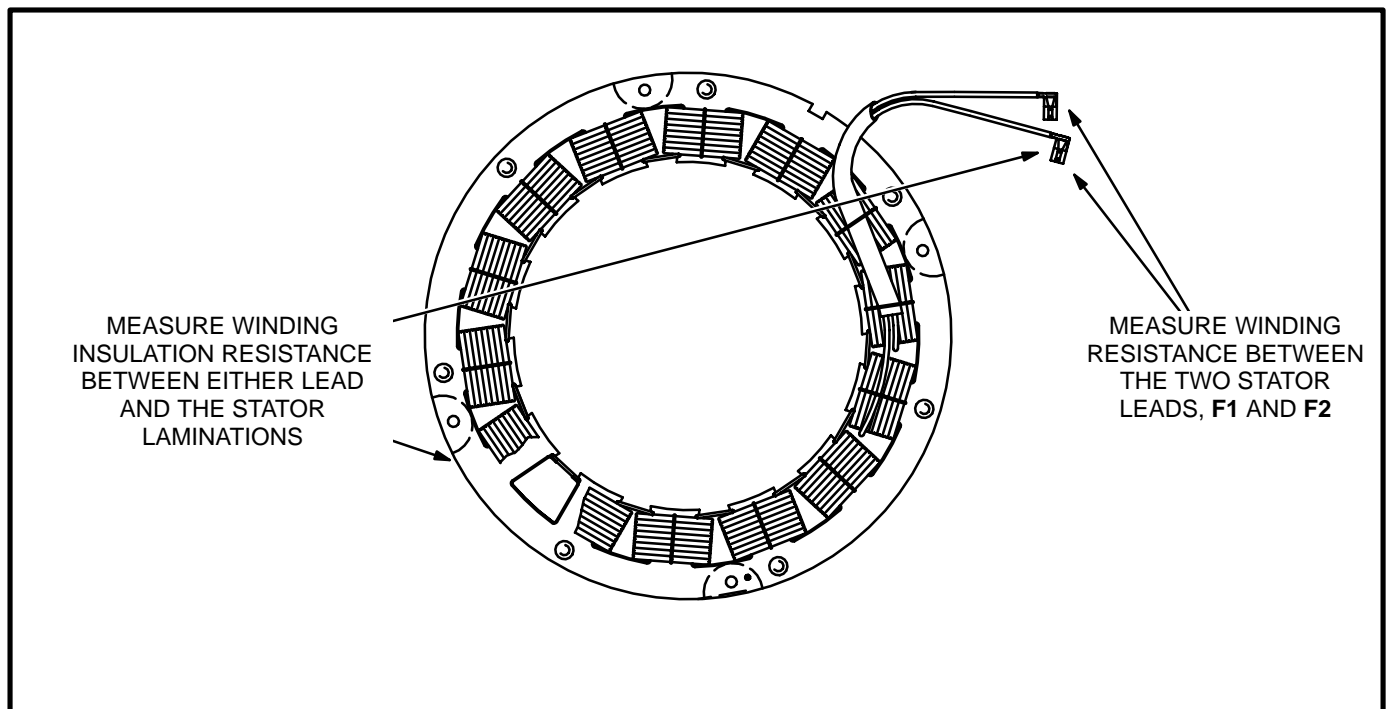

FIGURE 5-2. TESTING AND FLASHING THE EXCITER STATOR
2. Disconnect the F1 and F2 leads (Figure 5-2) at the voltage regulator and connect them to a variable 12 VDC source. Positive lead to F1, negative lead to F2.